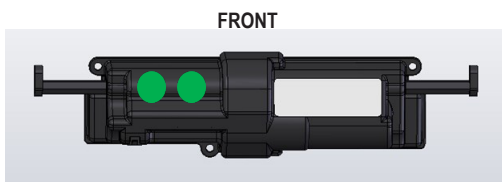

Figure 4. Tilting from Anterior Tilt to home position
- If LED1 (see figure 4) lights either red or green but LED2 does not light, then the switching motor may need to be replaced.